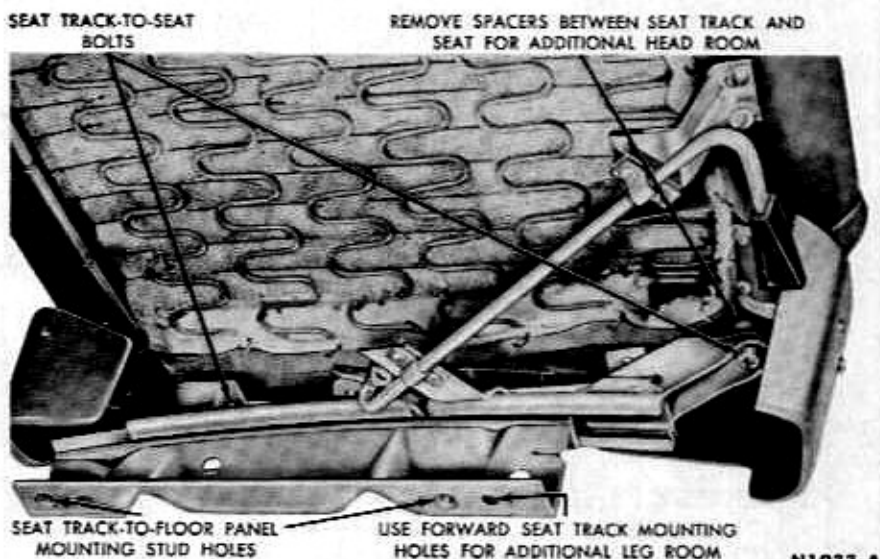

FIG. 1—Manual Seat Track
The manually operated front seat is mounted in the conventional manner on two seat tracks. The seat release is located at the lower front center of the seat, and is operated by pulling the lever up to release the seat track (Fig. 1).
2. If the seat release lever is attached to the seat track, remove the two screws retaining the seat release lever to the seat track (Fig. 1). Remove the two screws retaining the seat track to the seat cushion and remove the seat track.